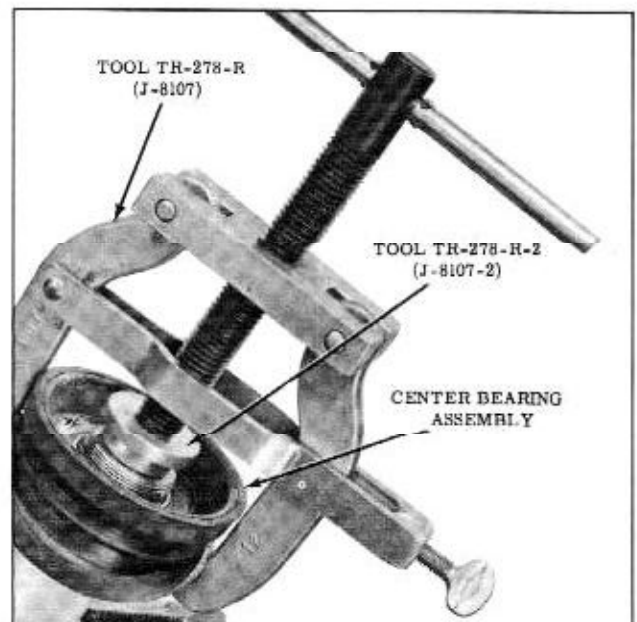

Fig. 6-34 Removing Center Bearing
5. Remove the center bearing using Puller TR-278-R and Adapter TR-278-R-2. (Fig. 6-34)